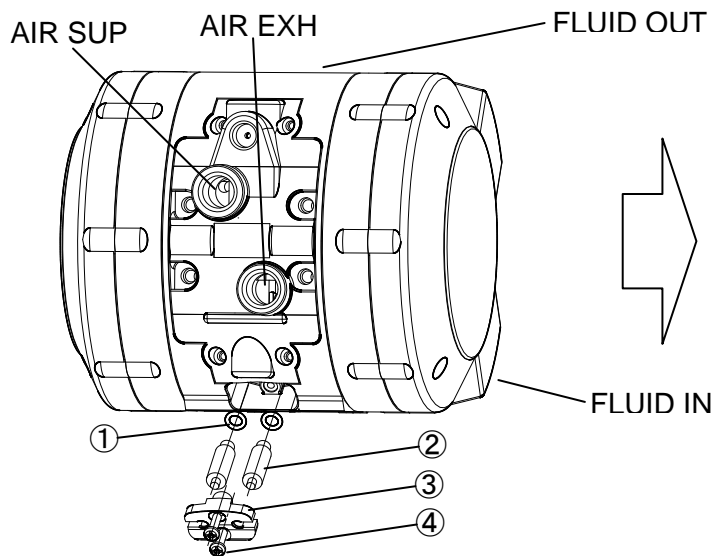

Fig. 1
Air is supplied in actuating chamber shown in Fig. 1 fluid in pump chamber is flowed out. Meanwhile, pump chamber B sucks fluid.
1. Remove the round head Philips screws below the AIR EXH port of the pump. Then, remove the leakage sensor cover, plug, and O-ring (Fig. 1). The O-ring, leakage sensor cover, and round head Philips screws are used again later. Do not throw them away.